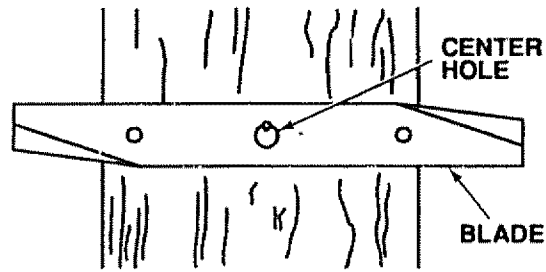

FIGURE 13
- c. To check blade balance, drive a nail into a beam or wall. Leave about one inch of the straight nail exposed. Place center hole of clean blade over the head of the nail (Fig. 13). NOTE: CENTER HOLE OF BLADE ON NAIL. IF BLADE IS PROPERLY BALANCED, BLADE SHOULD REMAIN IN POSITION SHOWN IN FIG. 13. IF EITHER END OF THE BLADE MOVES DOWNWARD, BLADE IS NOT BALANCED. SHARPEN THE HEAVY END UNTIL BLADE IS BALANCED.